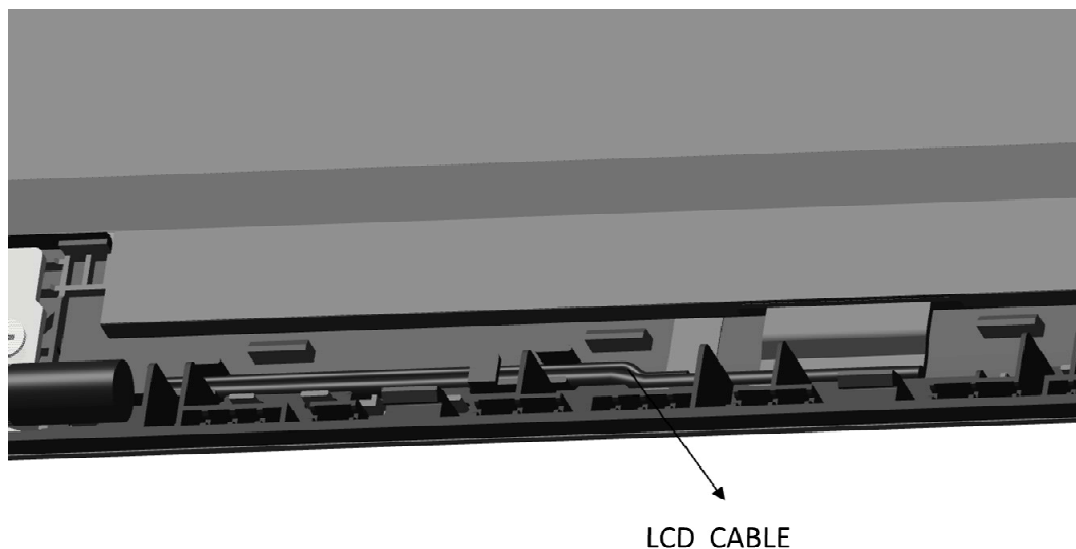

Figure 4-22 LCD cable below the LCD module cover latch
5. Check LCD cable below the LCD module cover latch as Figure 4-22 shown.